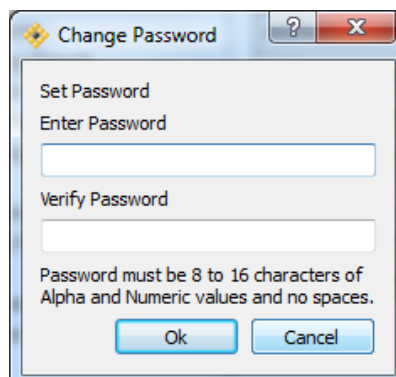

Figure 3.2. Change Password Dialog Box
2. The new File Protection Password must be 8 to 16 alpha and numeric characters, and cannot contain spaces or special characters. If you need to record the new File Protection Password for future reference, choose a secure location. In the Change Password dialog shown in Figure 3.2, enter the new **File Protection Password** twice and click **OK**.